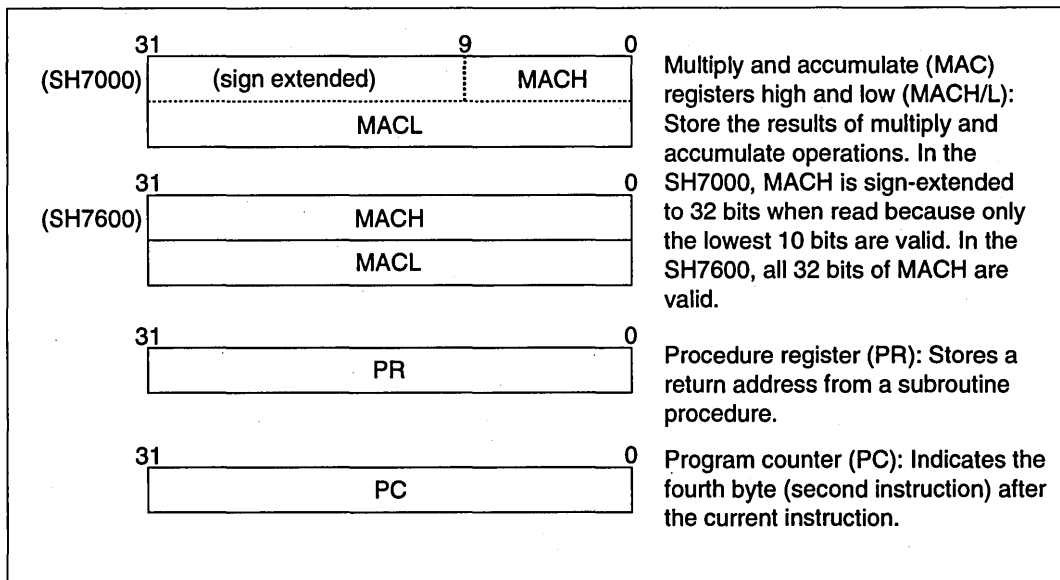

Figure 2.3 System Registers
The system registers consist of four 32-bit registers: high and low multiply and accumulate registers (MACH and MACL), the procedure register (PR), and the program counter (PC) (figure 2.3). The multiply and accumulate registers store the results of multiply and accumulate operations. The procedure register stores the return address from the subroutine procedure. The program counter stores program addresses to control the flow of the processing.